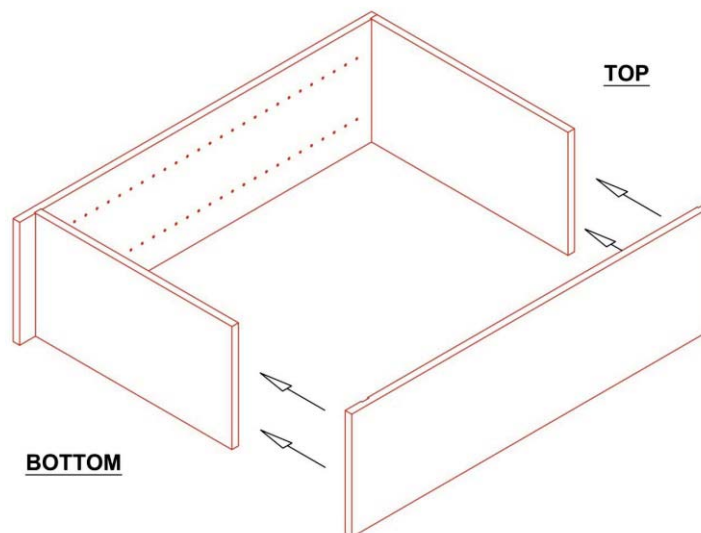

Figure 2
3. Attach the right side panel to the top and bottom panels using the pre-drilled holes and screws provided (**Figure 2**).